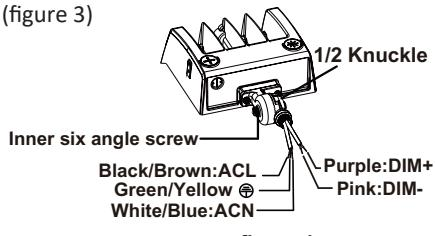
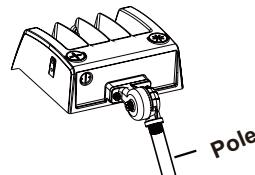

figure 1
figure 2
- Step 2: Finish the wire connection according to the right mode of connection (pay attention to positive wire, negative wire, and ground wire), (figure 1).and then put wire into lamp pole;(figure 2)